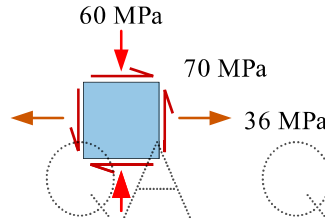

Fig.5
8. Consider a point in a structural member which is subjected to plane stress. Normal and shear stresses acting on horizontal and vertical planes at the point are shown in Fig. 5.